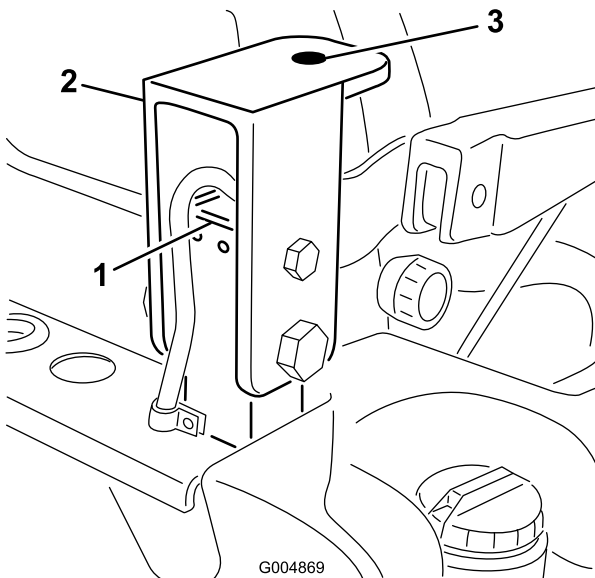

Figure 58
- Loosely install a cab mount support to each ROPS post with two bolts (1/2 x 3-1/2 inches), two nuts (1/2 inch), two bolts (3/4 x 3-1/2 inch) and two nuts (3/4 inch) (Figure 58). Make sure the top plate hole is positioned forward. Do not tighten bolts at this time.